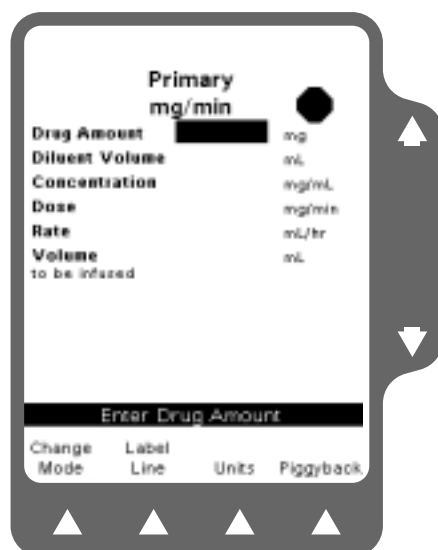

Figure 5-9 Enter Drug Amount
6. Enter the desired Drug Amount using the numeric keypad (Figure 5-9) and use the \downarrow key to highlight the Diluent Volume field.